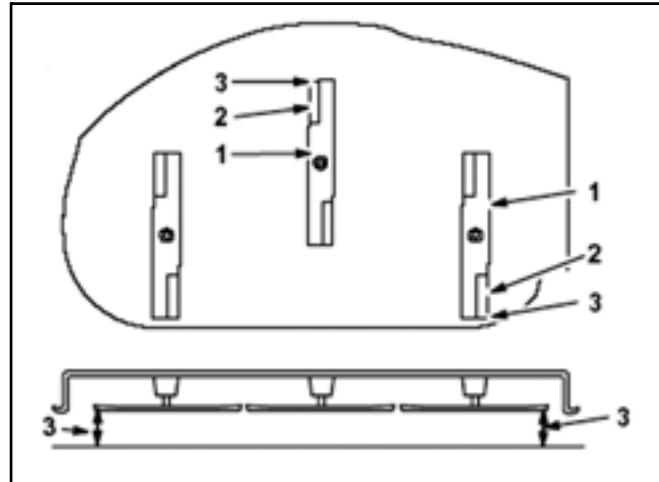

Figure 106
8. Set the height-of-cut at position D [3 inch (76 mm)] and carefully rotate the blades so they are facing front to rear (Figure 106).
9. Measure from the tip of the front blade to the flat surface and the tip of the rear blade to the flat surface (Figure 106). If the front blade tip is not 1/16–5/16 inch (1.6–7.9 mm) lower than the rear blade tip, adjust the front locknuts.